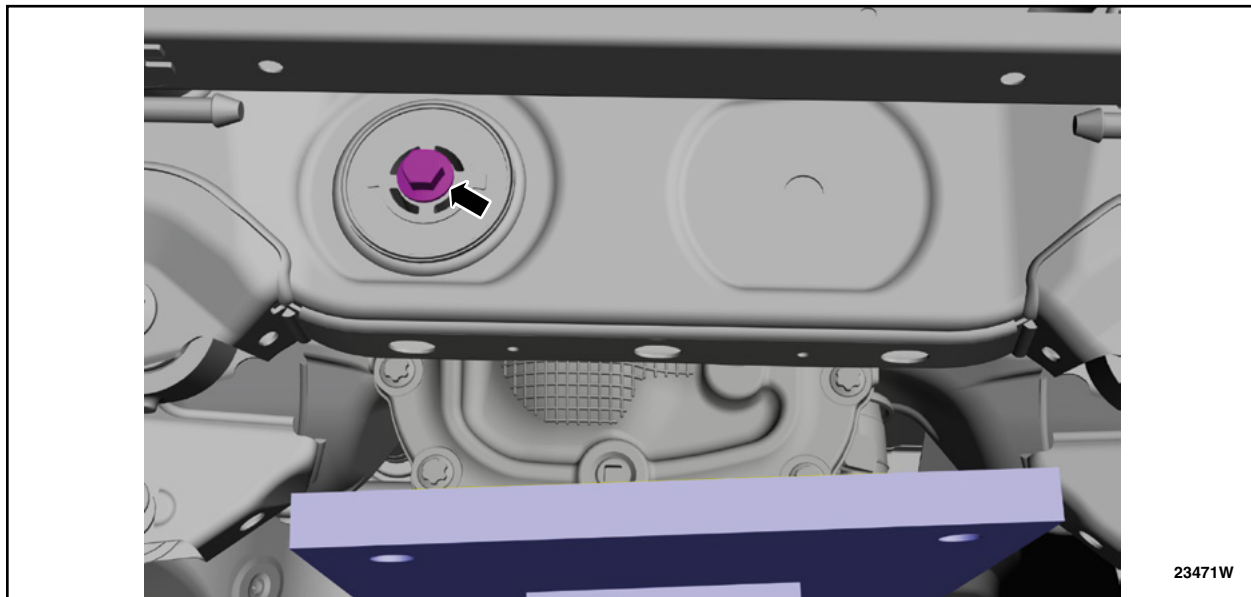

FIGURE 1
2. Does the Rear Differential Unit (RDU) contains One or Two RDU axle cover to subframe mounting bolts? See Figures 1 and 2.
- A. The RDU only contains ONE (1) axle cover to subframe mounting bolt. Proceed to Step 3.
- B. The RDU contains TWO (2) axle cover to subframe mounting bolts. This Recall is complete and no further repairs are required. Refer to the Dealer Bulletin for RDU claiming instructions.